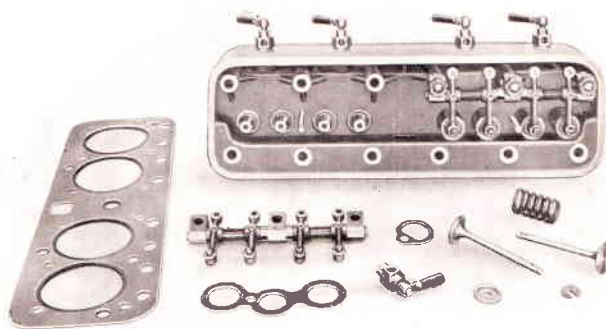

Figure 2.
**Detachable Cylinder Head.** This is easily detachable by unscrewing the nuts securing it to the cylinder block, when complete accessibility is had to the Valves, Combustion Chamber, and Cylinders (see Figure 2). Decarbonising and cleaning are thus simple operations.